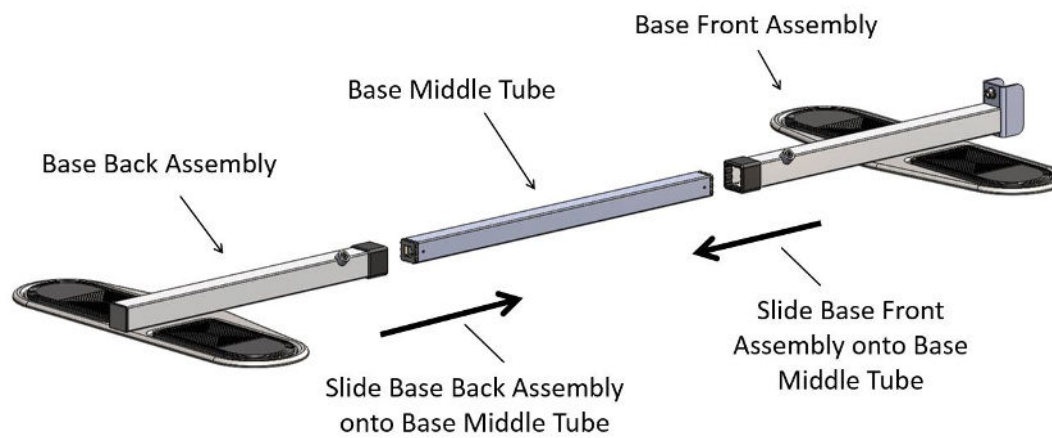

FIGURE 2
2. Slide Base Front Assembly and Base Back Assembly onto the Base Middle Tube as shown in Figure 2.